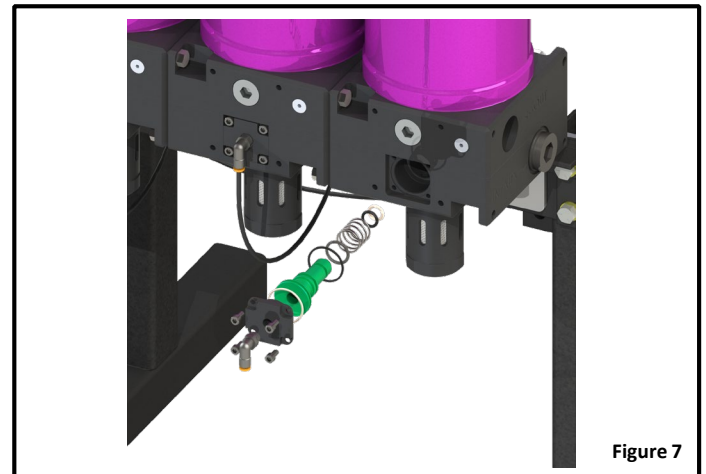

Figure 7
2. Using a 4mm hex key wrench, remove the four socket head cap screws holding the piston cover in place; remove piston cover for access to piston. *Figure 7*
3. Using a 1/2-13 bolt, remove the piston; be sure to remove the piston spring. *Figure 7*